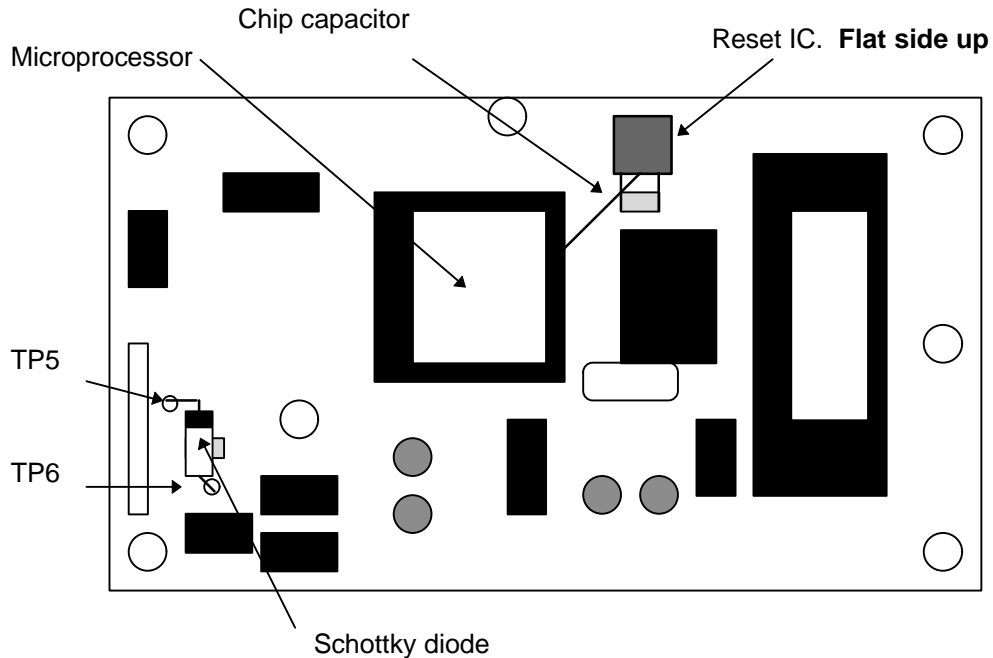
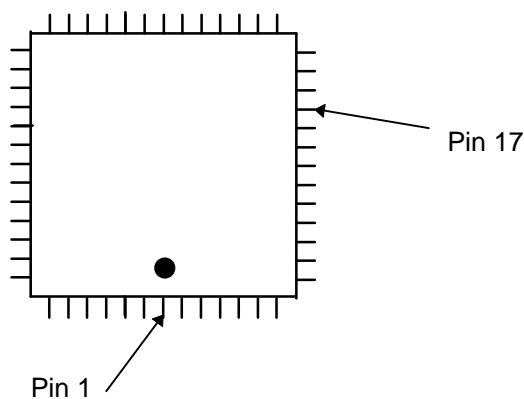

Figure 2: location of Schottky diode and Reset IC
Figure 3: Location of Pin 17 of Microprocessor IC
- ❑ Locate TP5 and TP6. Refer to Figure 2.
- ❑ Fit the Schottky diode (1N5817) into TP5 and TP6 as shown in Figure 2.
- ❑ Fit the Reset IC as shown in Figure 2. Ensure the flat side is uppermost.
Pin 17 is the 4th Pin down from the top right corner (as viewed in Figure 2). Refer to Figure 3.